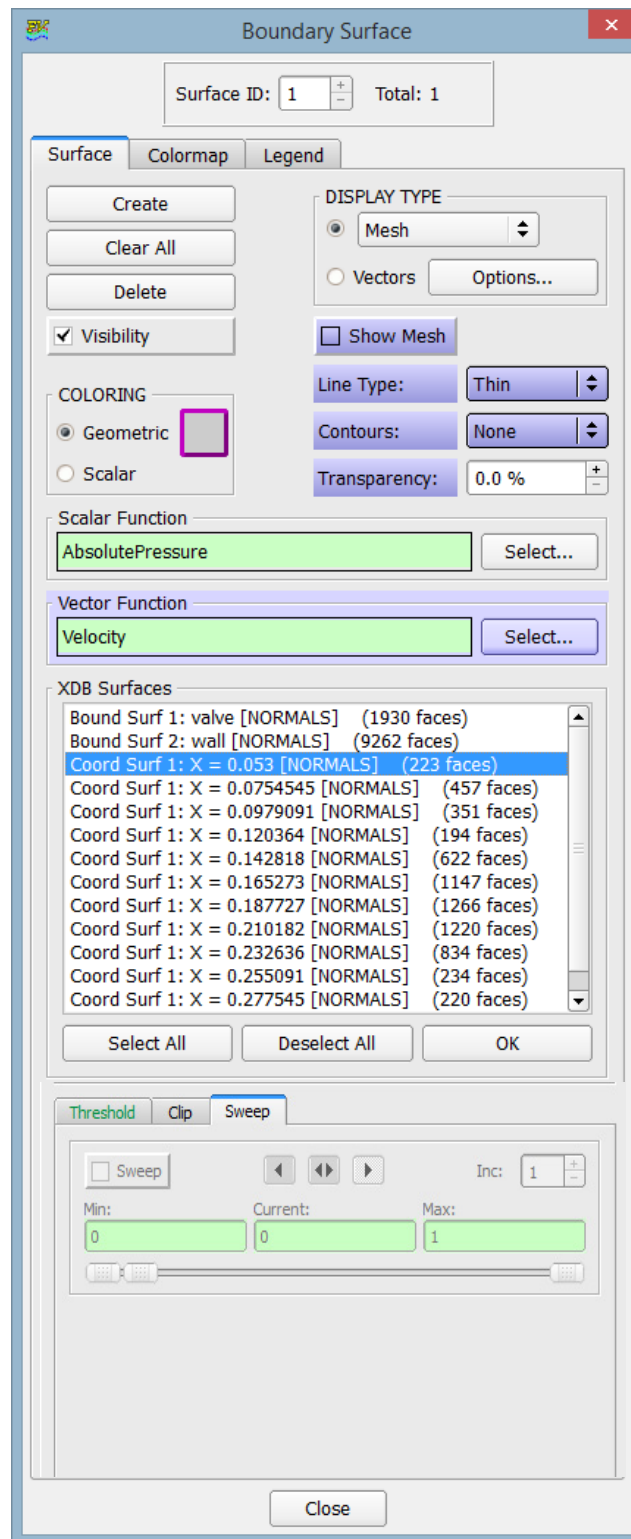

Figure 191 Boundary Surface Panel after “XDB Import...” and “Create”
2. Bring up the Boundary Surface panel and click Create. A list of XDB Surfaces will be displayed. In Figure 191, an example with the naming convention used for swept surface export is shown (in this case, "Coord Surf 1").
3. Select one and only one of the swept surfaces, as shown in Figure 191.